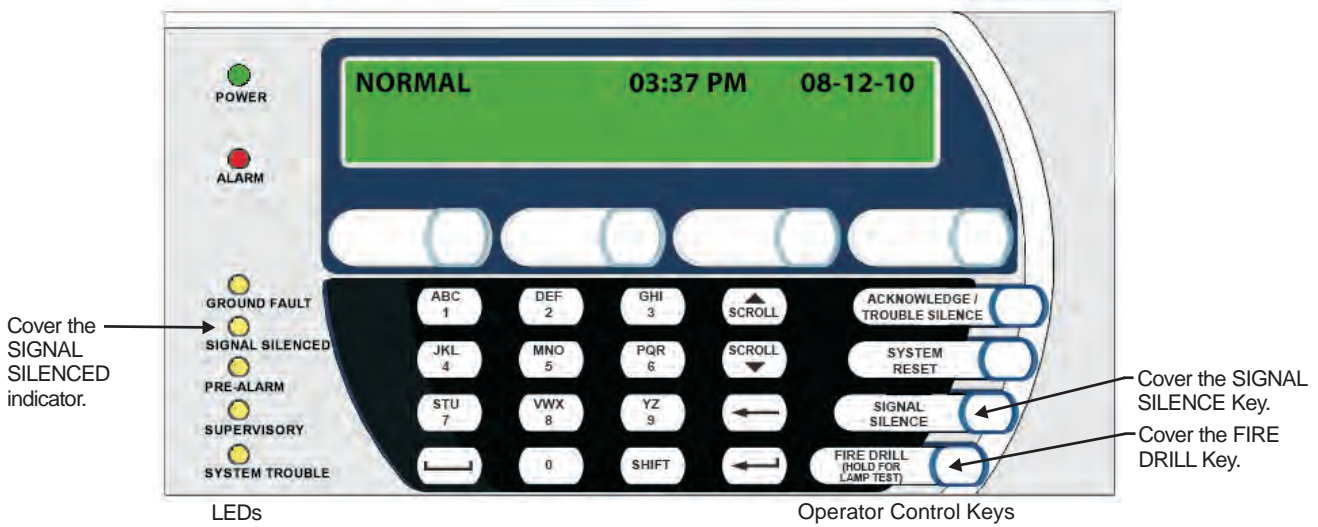

Figure G-4. Keypad/Display Label Placement
3. Apply three (3) blank labels over the control unit's indicator and keys listed below as shown in Figure G-4. These keys should not be used by the operator, in accordance with the AHJ: